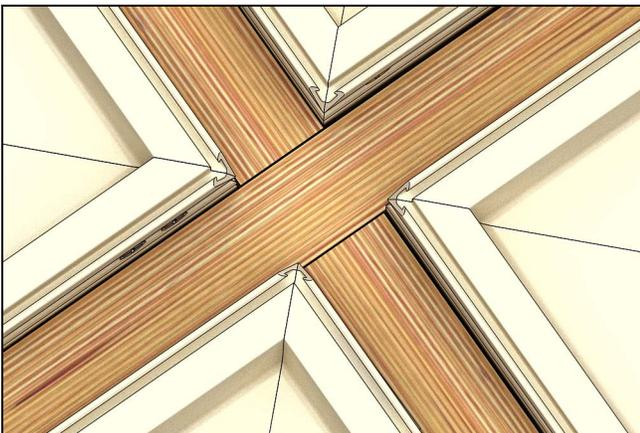

**Figure 11** Close up of notched corner
1. Any corner that intersects a mull must have a notch cut out of the accessory kerf cladding such as that shown in Figure 11. Notching allows room to apply the mull cap and frame trim later.